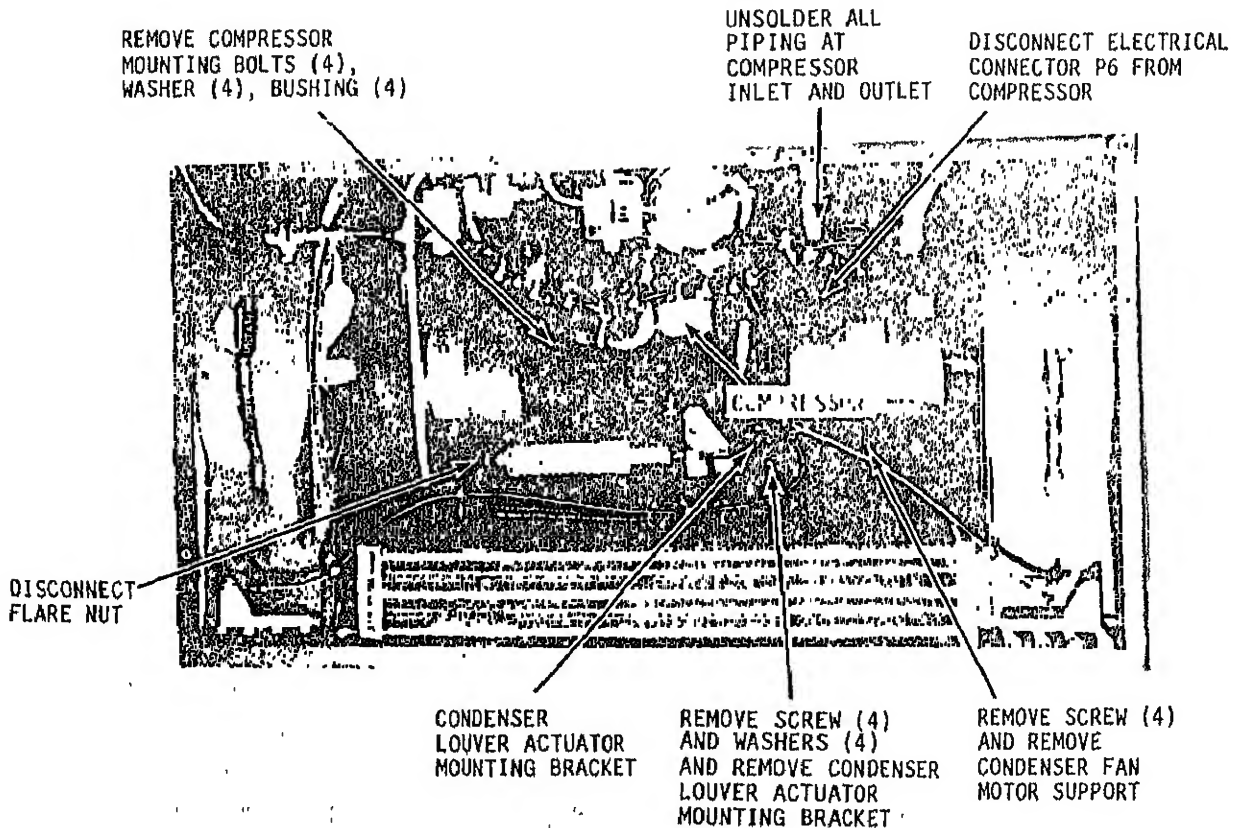

Figure 5-2. Compressor and accumulator, removal and installation
b. Removal. Refer to figure 5-2 and remove compressor as follows:
(3) Refer to figure 5-2 and disconnect condenser louver actuator with bracket attached. Move aside without altering actuator adjustments.
(1) Refer to figure 5-2, place compressor on mounts and install four compressor mount bushings. Secure compressor with four screws, washers and lock washers.
(6) Refer to figure 5-2 and install condenser louver actuator and mounting bracket.